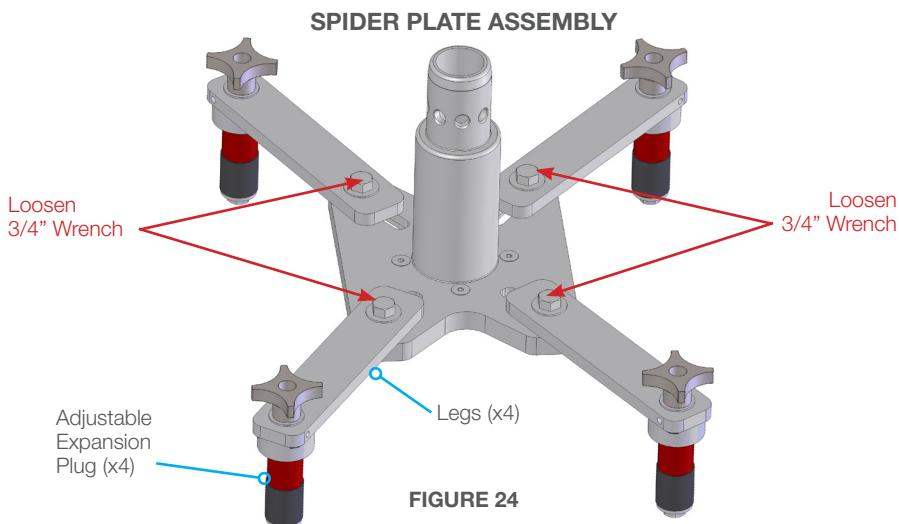

FIGURE 24
1. Loosen the four bolts on the legs of the Spider Plate Assembly with a 3/4" Ratcheting Open-End Box Wrench, so the legs are free to slide in the slots of the Hub Plate but do not come off. (**Figure 24**)
2. Loosen the Expansion Plugs (x4) on each leg with the adjustable knobs. (**Figure 24**)